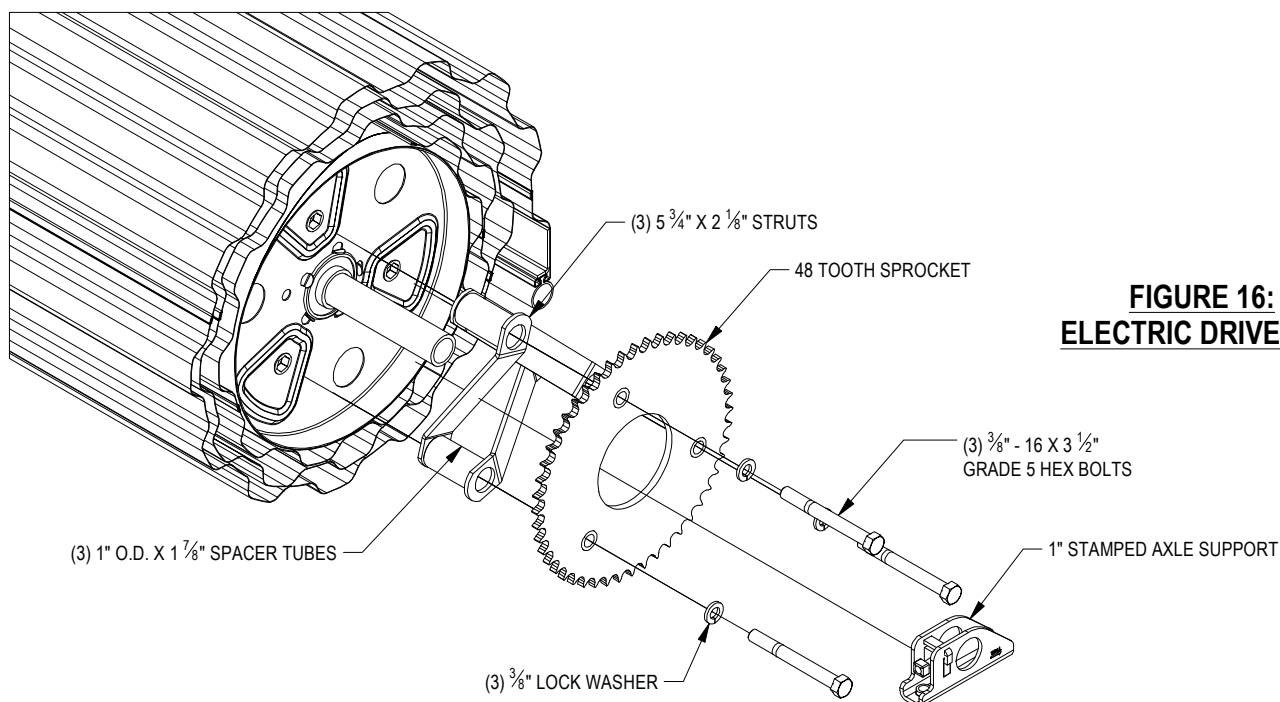

FIGURE 16:
- Locate three (3) each 1" O.D. x 1 $\frac{7}{8}$ " Long Spacer Tubes and 5 $\frac{3}{4}$ " long x 2 $\frac{1}{8}$ " offset Struts between 48 tooth #41 Sprocket and drum. Attach Sprocket with three (3) each $\frac{3}{8}$ " - 16 x 3 $\frac{1}{2}$ " Grade 5 Hex Bolts and $\frac{3}{8}$ " Lock Washers.
- Slide Stamped Axle Support over axle, with arrow pointing toward wall. See Figure 16.